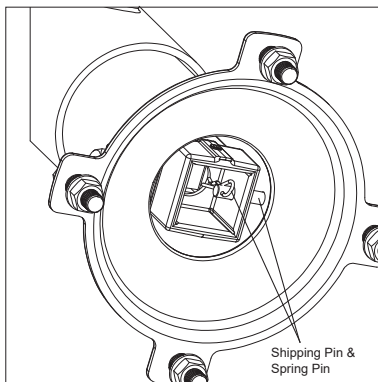

Fig. 4A
**CAUTION:** Remove the Shipping Pin and Spring Pin, prior to lowering the Wrench Nut Adaptor (F334), onto the Wrench Nut. (See Fig. 4A)